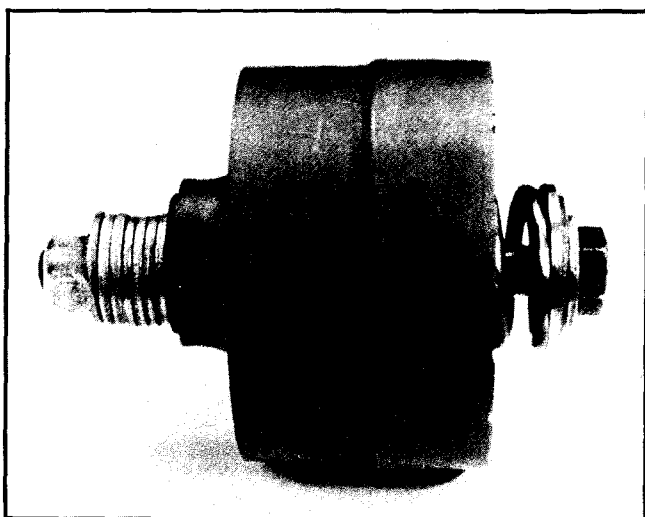

Figure 11. Cylinder block subassembly disassembly tool. (Tighten nut, remove snap ring, loosen nut to relieve spring tension).
6. Remove parts (20 through 23) from cylinder block (14). See Figure 11 for disassembly instructions.
7. Disassemble valve block (51) as follows: